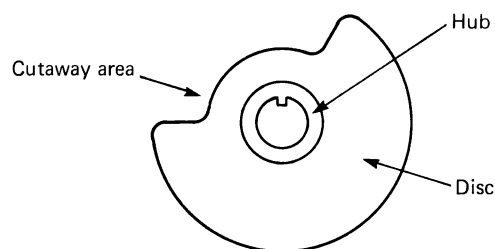
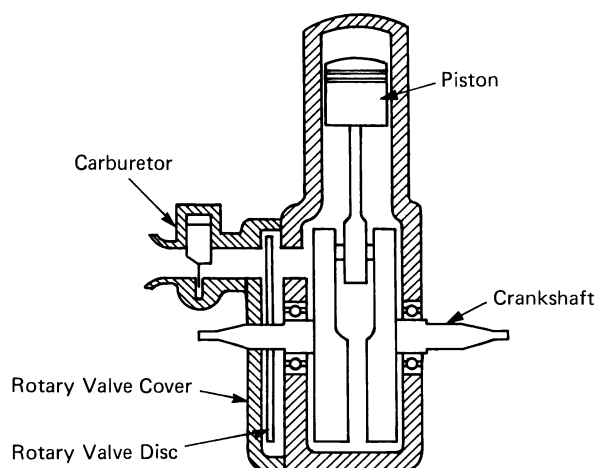
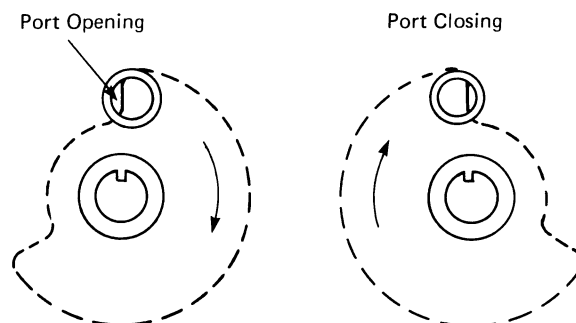

Fig. 8-11 Rotary valve disc
Fig. 8-12 Rotary valve in crankcase, showing placement of valve in relation to crankcase
Fig. 8-13 Rotary valve operation showing relation of valve to port on opening and closing
**Rotary Valve.** A rotary valve system controls the intake port by using a partially cutaway rotating disc to open and close the port at strategic times (Fig. 8-11). This design performs better generally than conventional piston porting. The carburetors are mounted on the sides of the engine to give more direct flow to the rotary valve (Fig. 8-12). The rotary valve cut allows the air-fuel-oil charge to enter the vacuum of the crankcase during the entire or any desired portion of the upward stroke of the piston (Fig. 8-13).